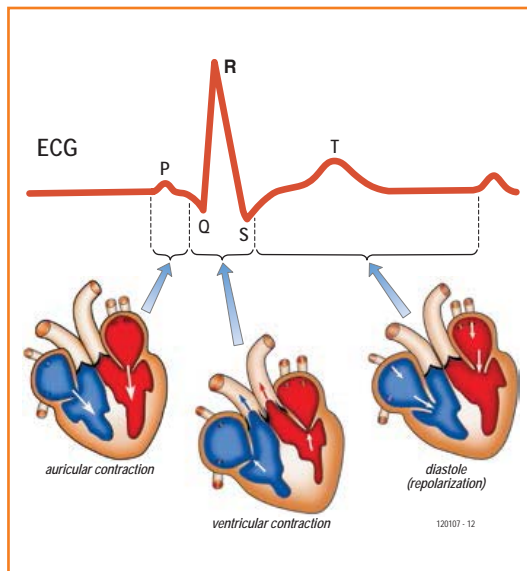

Figure 1. Correspondence between the electrical activity detected and the phase of a cardiac cycle.
**Figure 1** shows the relationship between the electrical activity detected and the phase of a cardiac cycle: